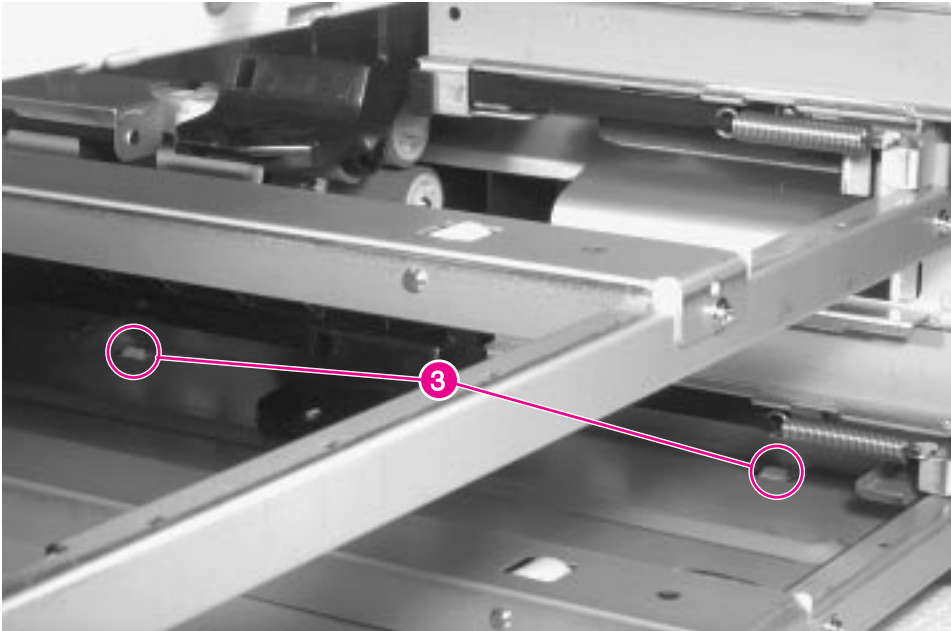

Figure 6-17 Right Lower Door Assembly (3 of 3)
- 5 Release two retainer tabs from the inside of the Tray 3 cavity (figure 6-17, callout 3).